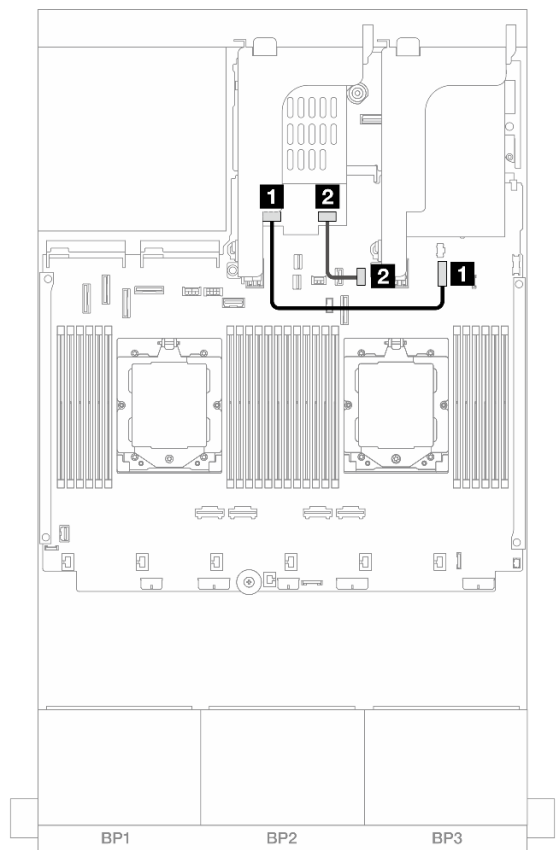

Figure 324. SATA cable routing
- Figure 324 “SATA cable routing” on page 364